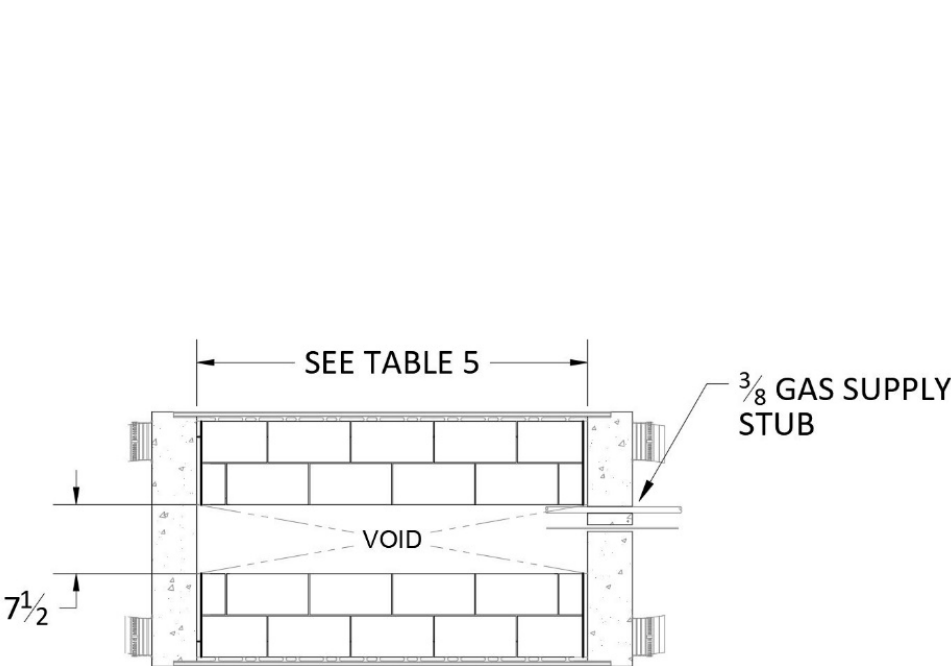

FIGURE 59
- 2) When used in the Maximus Linear See-Thru Fireplace with Glass Front, the ISOFLAMES Linear Burner is designed to be recessed into the 2-1/2” deep firebrick cavity constructed as detailed in the Firebrick Installation portion of this manual (pgs. 49 – 50 / Figure 59 & 60).